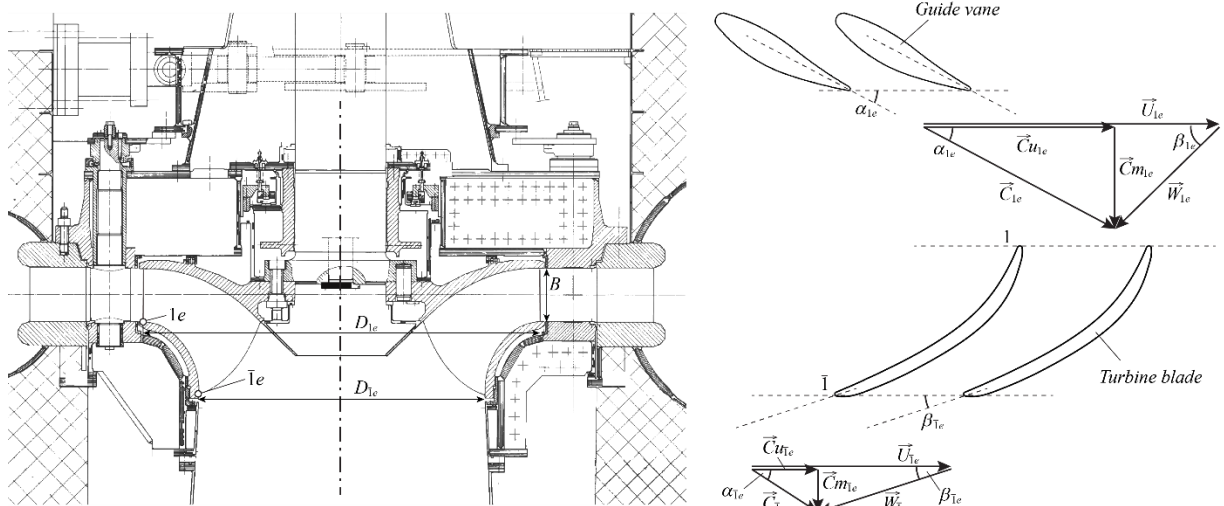

Figure 1. Scheme of the hydropower plant with its characteristics.
The meridional view of a Francis turbine and one example of the velocity triangle are sketched in Figure 1. For a Francis turbine, the angle of the absolute flow velocity at the inlet α_{1e} corresponds to the guide vane opening degree, and the angle of the relative flow velocity at the outlet corresponds to the outlet blade angle $\beta_{\bar{1}e}$, as shown in Figure 1. Referring to the figure, answer the following questions.
- 3) Give the meridional components of the flow velocity $C_{m_{1e}}$ and $C_{m_{\bar{1}e}}$ as a function of the discharge Q and the volumetric efficiency η_v by using the variable defined in Figure 1.